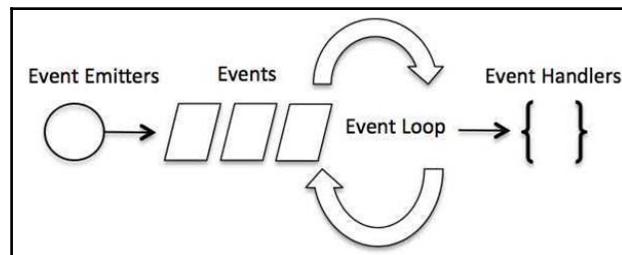

Figure 3.2
- **Single threaded:** Node.js follows a single-threaded mechanism with event looping. As soon as the Node server is started, it initializes variables and functions and then waits for events to take place. Consider *Figure 3.2* to understand event-driven programming. There is a main loop in a node server application that listens for events/requests and then triggers the `callback/listener` function: